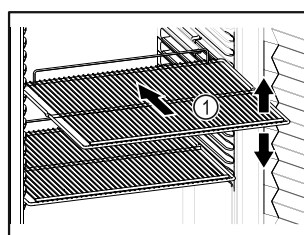

Fig. 61 Example illustration
- If there are adjustable shelves *Fig. 61 (1)*, position them as required.